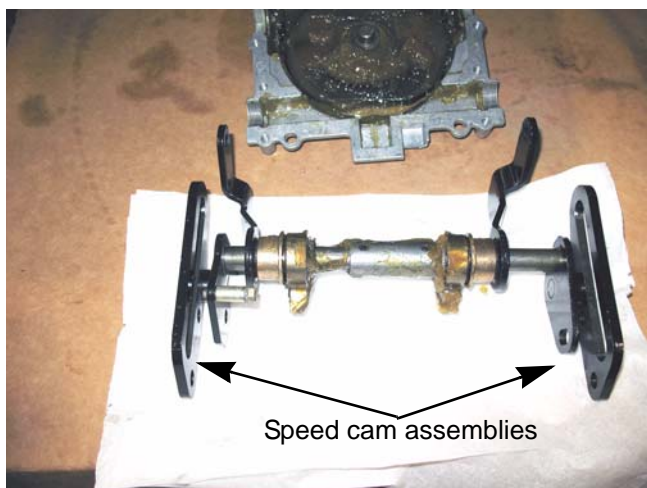

Figure 6.34
8. Remove the speed cam assemblies. See Figure 6.34.